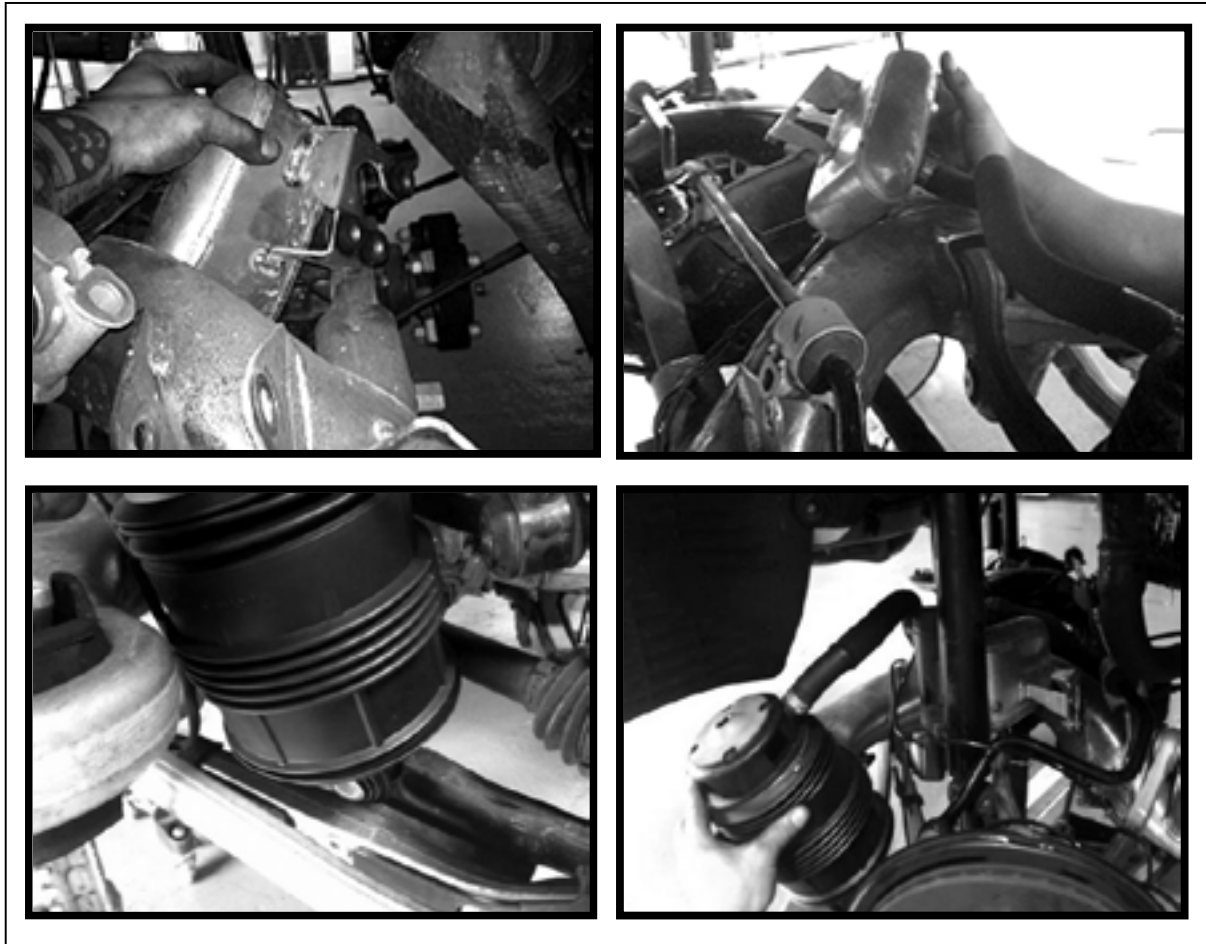

FIGURE 10-31
34.0 REMOVE OLD AIR SPRING AND RESIVIOR. (FIGURE 10-31)